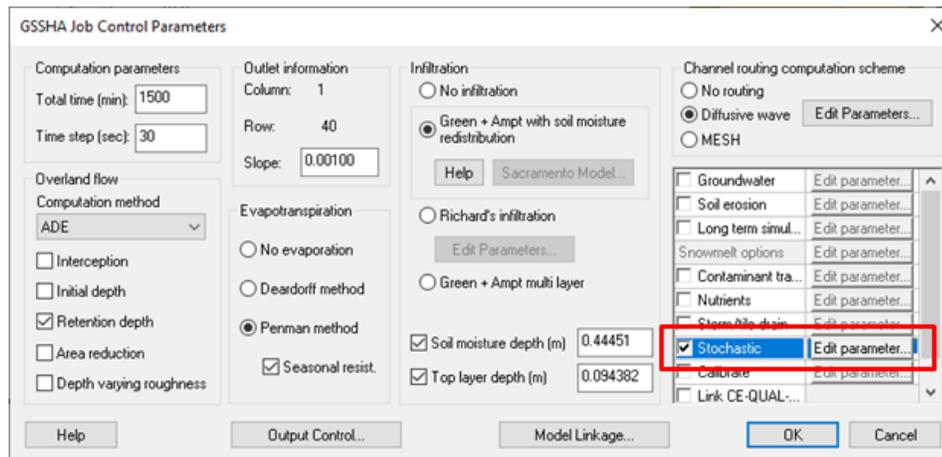

Figure 1 Stochastic option in the GSSHA Job Control Parameters dialog
2. Turn on the *Stochastic* option (see Figure 1).